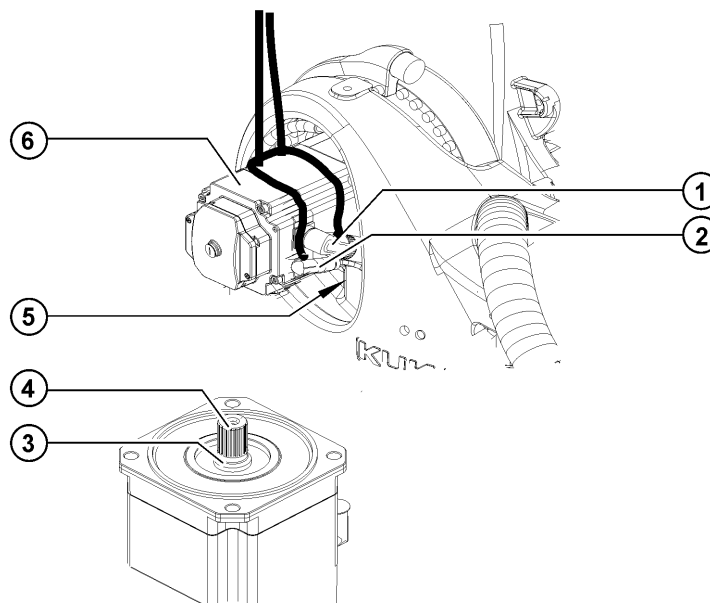

Fig. 11-5: Installing motor A2
1. Remove all protective coatings and oil from the new motor A2 (>>> Fig. 11-5).